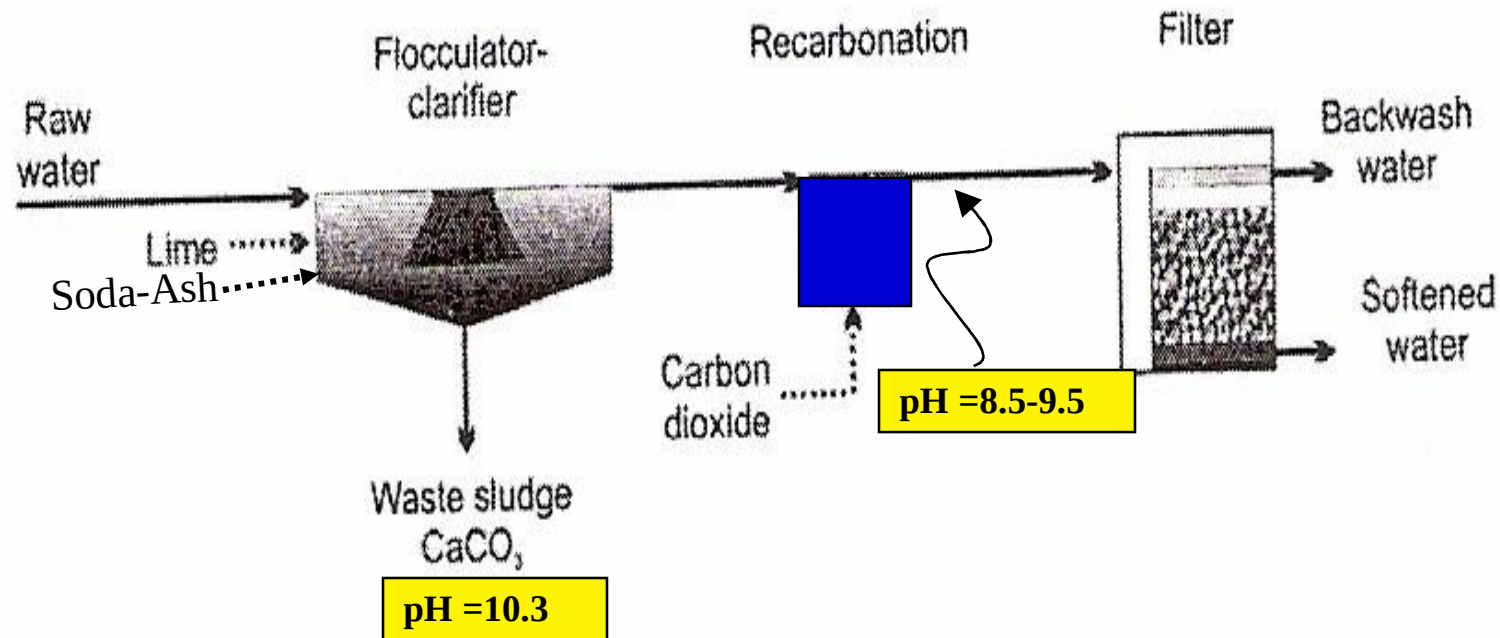

Fig. 3.5 Schematic diagram of a single stage softening water treatment plant
- This treatment is achieved in a single stage system as that shown in Figure 3.5